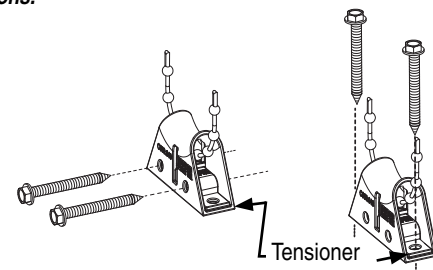

Figure 4
- ② Cord tension device comes installed on bead chain (see Fig. 4). Install cord tension device to wall, jamb or sill. To install, pull tensioner down so that the bead chain is held taut and use the mounting hardware to keep it taut. The bead chain should be taut enough so it will move smoothly through the device. If there is not enough tension, the device will not allow the bead chain to pass through and operate the shade. This device is designed so that children cannot pull the bead chain away from the wall or fit their head into the loop. **See safety note.**